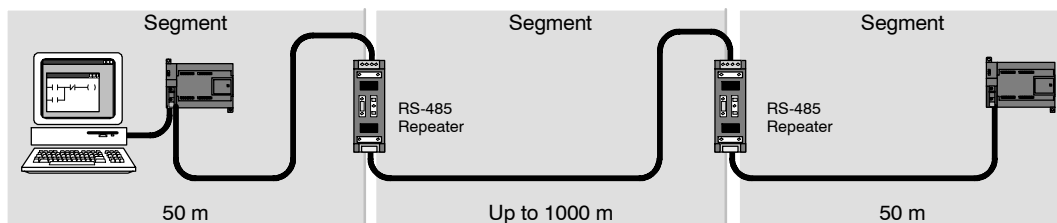

Figure B-2 Sample Network with Repeaters
- To increase the length of a network:* Adding a repeater to your network allows you to extend the network another 50 m. If you connect two repeaters with no other nodes in between (as shown in Figure B-2), you can extend the network to the maximum cable length for the baud rate. You can use up to 9 repeaters in series on a network, but the total length of the network must not exceed 9600 m.